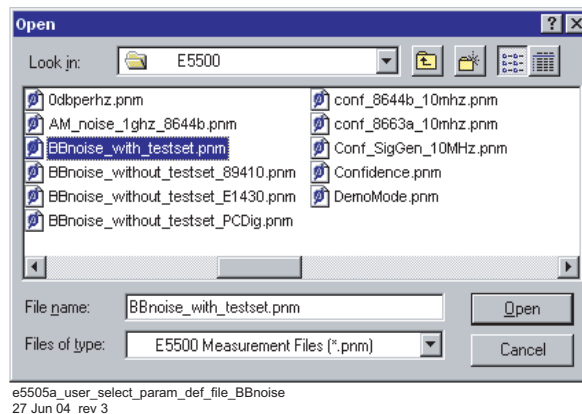

Figure 249 Select the parameters definition file
- 3 In the **File Name** box, choose “**BBnoise_with_testset.pnm**.” See Figure 249